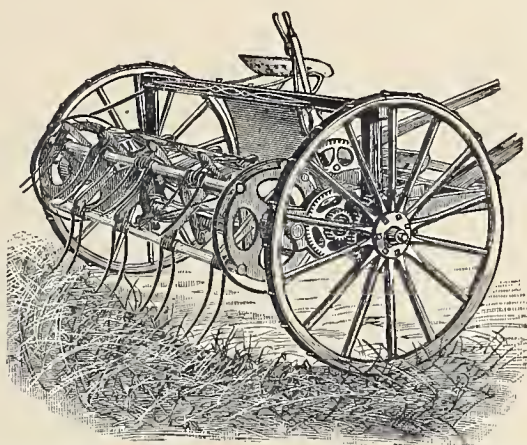

Fig. B 379.—Garfield's "The American" Hay Tedder, with 16 forks, for one horse.
*Garfield's "The American" Hay Tedder*, represented by *Fig. B 379*, is the best and only perfect machine for turning or tedding hay. It is simple, durable, of light draft, and by its use the most important farm product can be cut, cured, and stored in one day, the quality of hay very much improved, and its value materially increased.